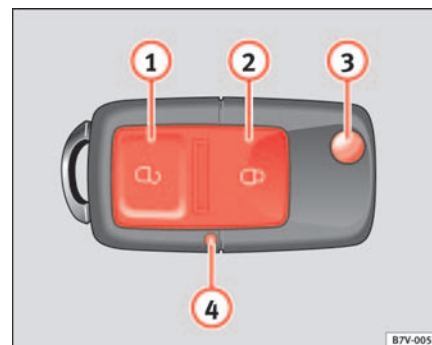

Fig. 61 Assignment of buttons on the remote control key
When the key is turned *once* in the driver's door lock, in the direction of opening, or when button ⇒ page 93, fig. 61  on the remote control key is pressed, only the driver's door will unlock.
- Press button  ⇒ fig. 61 ① on remote control to unlock all the doors and tailgate.
- Press button  ② on remote control to lock all the doors and tailgate.
When either of these buttons is pressed, the battery indicator lamp on the key ⇒ fig. 61 ④ lights up.
Using button ⇒ fig. 61 ③ on the control, the key shaft is released.
- Briefly press the open button  ⇒ page 93, fig. 61  once.
The vehicle can no longer be opened and closed with the remote control if you press button  ⇒ page 93, fig. 61  a long way outside the effective range of the radio wave remote control. The remote control key will have to be re-synchronised.
If the battery indicator on the remote control ⇒ page 93, fig. 61 ④ does not flash when the buttons are pushed, the battery must be replaced.
- Press button ⇒ page 93, fig. 61  to fold out the key bit.